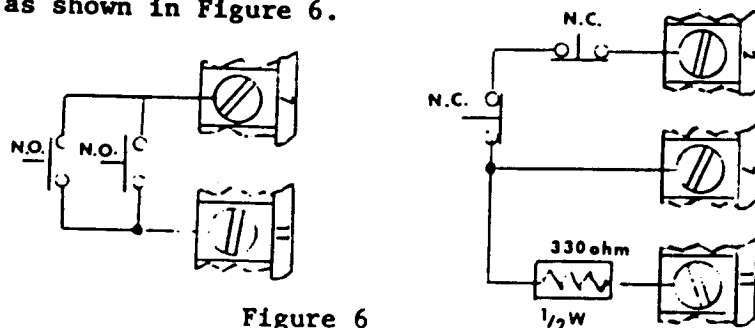

Figure 6
- Ch. 4 - Channel 4 will operate with (N.C.) or (N.O.) contacts but not both. Connect as shown in Figure 6.